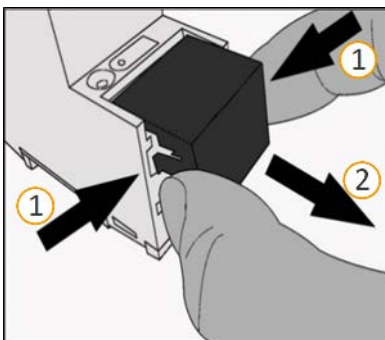

Figure 25: Removing the cover cap
1. Gently press in the cover cap at the side (see figure 25, item 1).
2. Pull off the cover cap upwards (see figure 25, item 2).